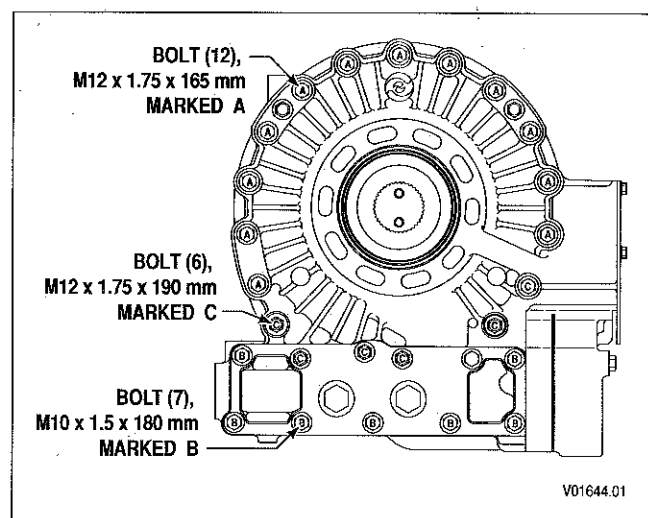

Figure 6-10. Retarder Module Bolts
4. Install twelve M12 x 1.75 x 165 mm bolts at locations marked A (Figure 6-10). Install six M12 x 1.75 x 190 mm bolts marked C. Tighten the eighteen M12 bolts to 90–110 N·m (66–81 lb ft). Install seven M10 x 1.5 x 180 mm bolts at locations marked B. Tighten the M10 bolts to 51–61 N·m (38–45 lb ft). Three bolts not mentioned were installed and tightened in Section 5.